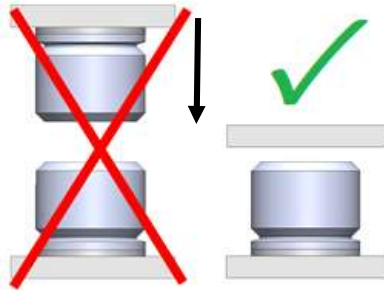

Fig. 3: do not drop buffers against each other
3.3.8 It is not permitted to drive buffers against each other. (fig. 3)